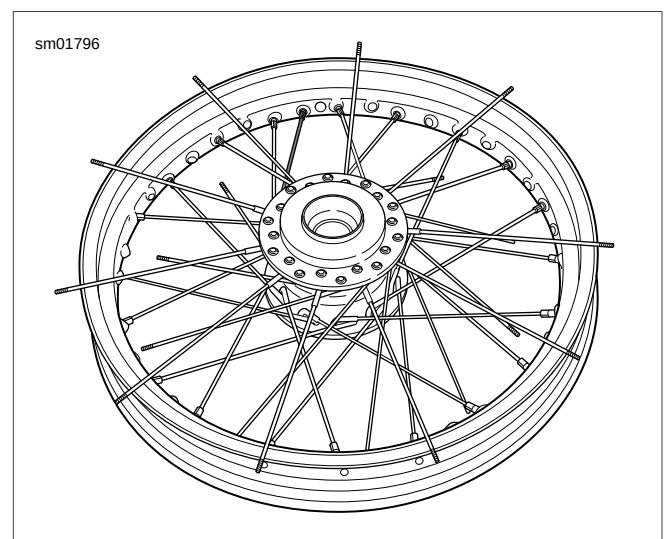

Figure 2-55. Beginning Spoke-Top Flange Inner
- See Figure 2-55. Verify spoke reaches spoke nipple and secure spoke by hand. Follow pattern to complete top flange inner spokes (long-head).
15. See Figure 2-55. Finish with top flange outer spokes (short-head). Point the top flange outer spokes (short-head) counterclockwise and make sure each one crosses four inner spokes before securing it to the rim.